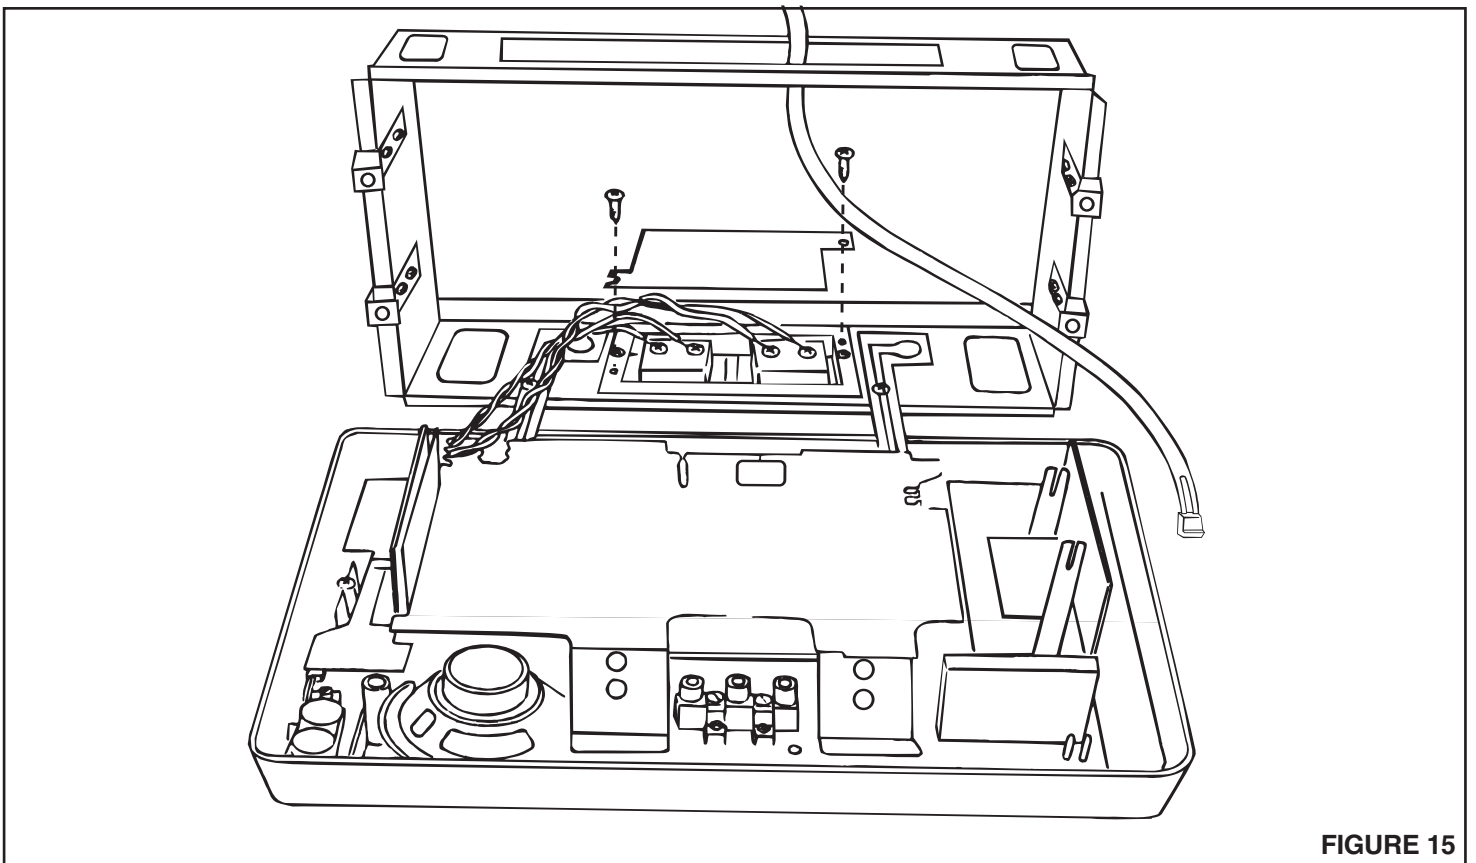

FIGURE 15
1. Refer to Figure 15. Remove the left front and right rear screws from the transformer enclosure. Set screws aside for later installation.
3. Fasten cover with two (2) screws previously removed.